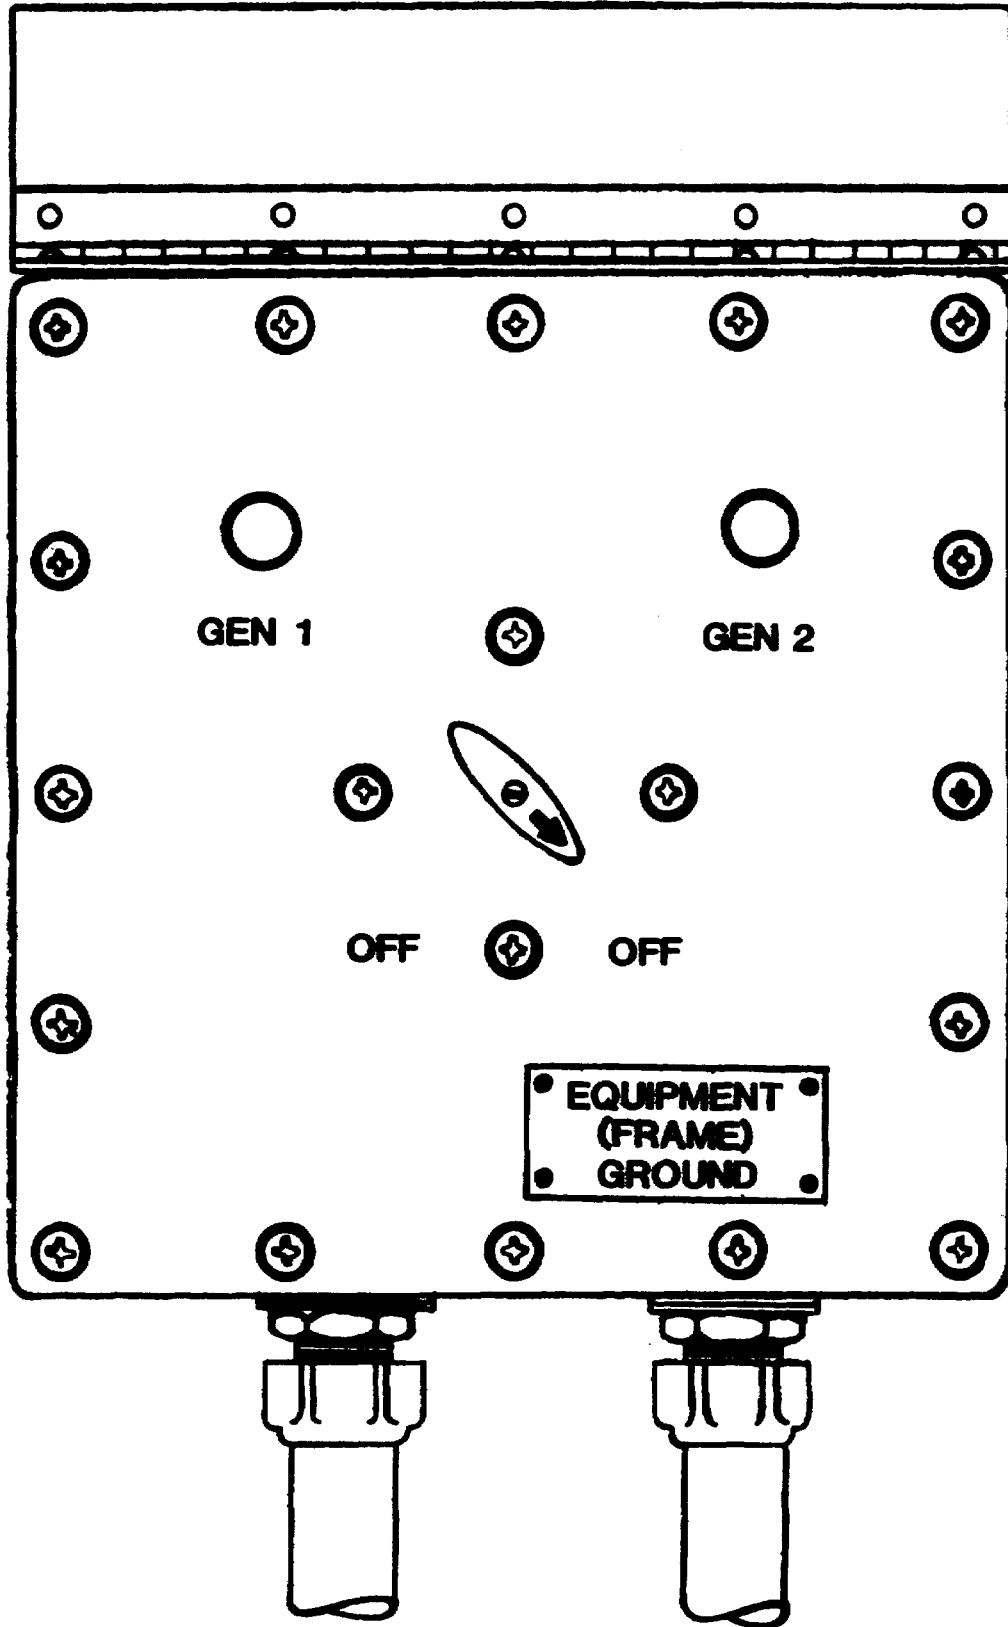

Figure 2-1. Switch Box Control Panel.
- (1) Single generator set operation. Use switch box to operate only one generator set as follows: (See figure 2-1).